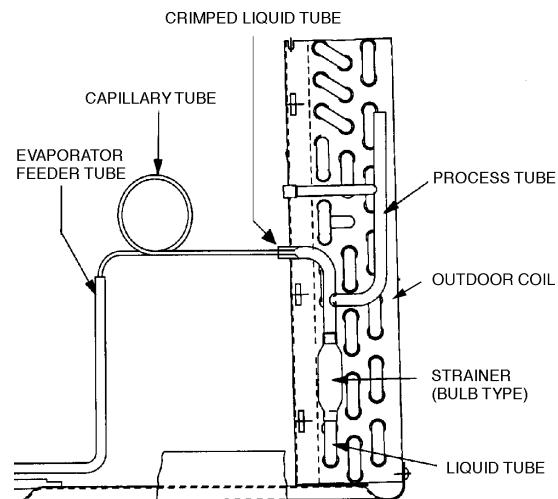

FIGURE 32 — STRAINER AND CAPILLARY TUBE LOCATION
3. **If the unit is a heat pump:** Disconnect the wire plug on the reversing valve solenoid and carefully remove the outdoor thermostat capillary from the outdoor coil. See Figure 32.
9. **For all units:** Remove and replace the strainer and capillary tubes from the system. See Figure 32 for strainer and capillary tube location.